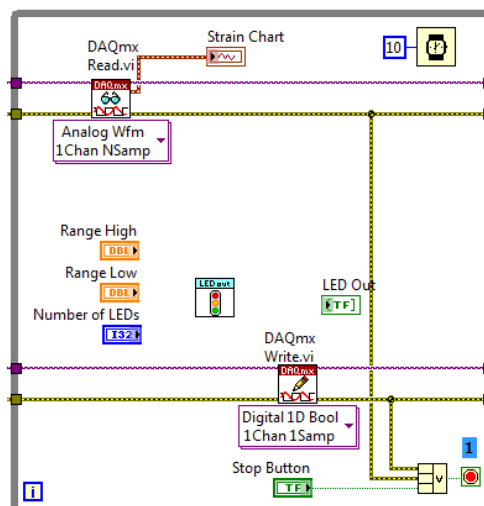

Figure 36. The LED_Scaled_Output VI is a subVI to scale the strain input to an LED output.
22. Place the VI as shown in Figure 36.